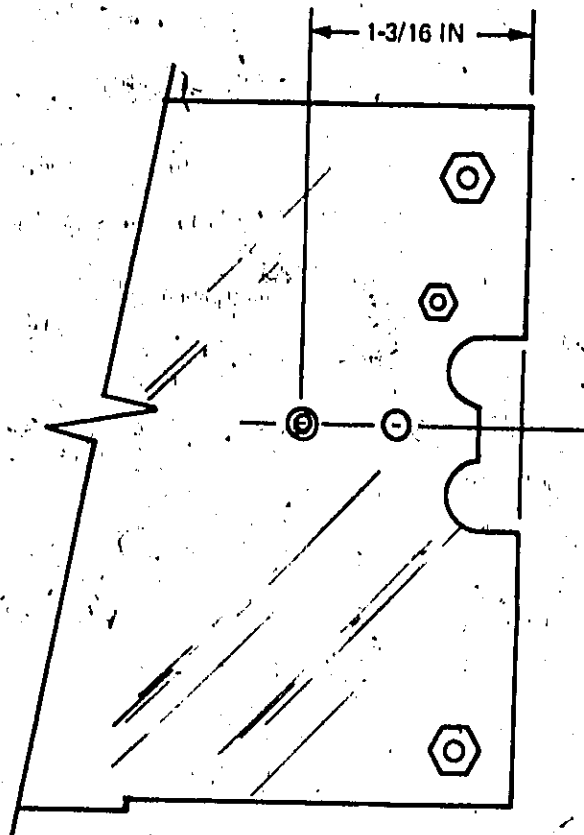

Figure 1.
5. Mark, punch and drill 3/16" hole in shield as shown in Figure 1.